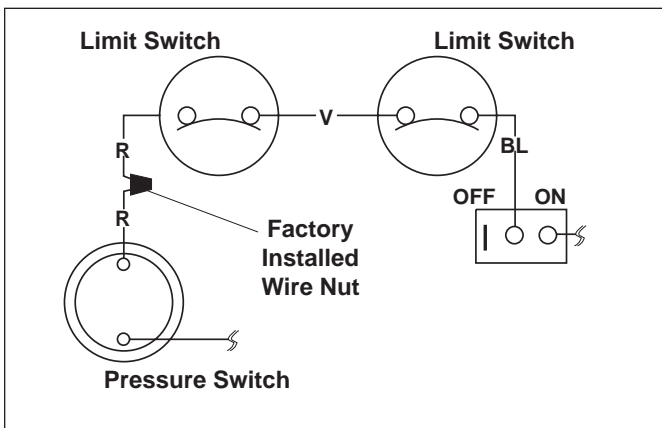

Figure 11. Hayward Heater Wiring Before Modification
2. Remove factory-installed wire nut between two (2) red wires labeled "CONNECTION FOR FIELD INSTALLED CONTROL SWITCH" (see Figure 11).